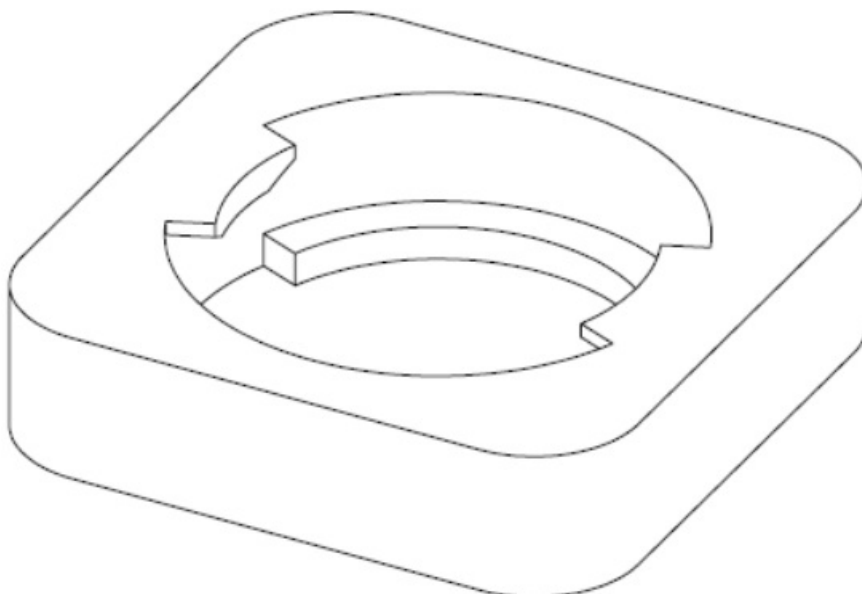

**Fig. 7:** Example of actuator installation in a round height-adjustable column
3. Mount the drive in the preassembled height-adjustable column (see Figure 7: Example of actuator installation in